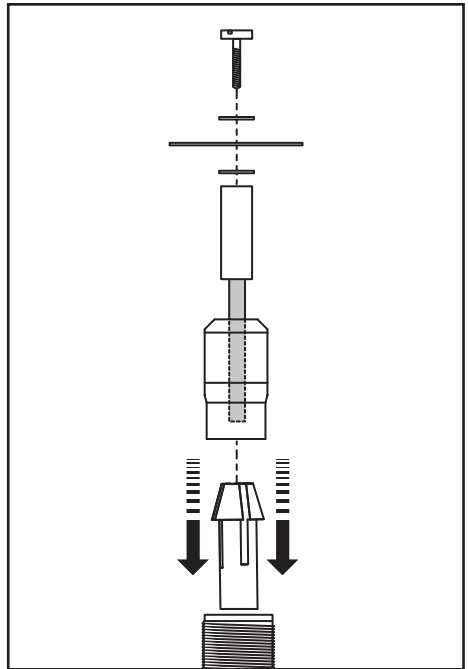

FIG.6
9.4 USING MANDRELS – FIGS.6 – 7